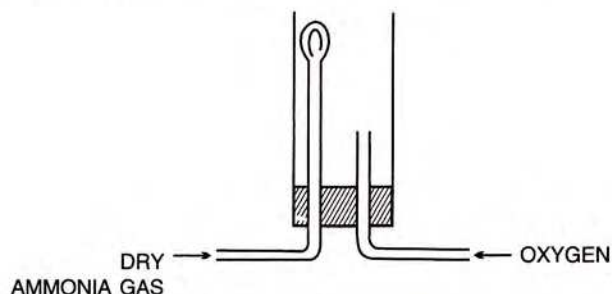

Fig. 9.6 Burning of ammonia in oxygen
**Experiment :** Burning of ammonia in oxygen (Fig. 9.6).